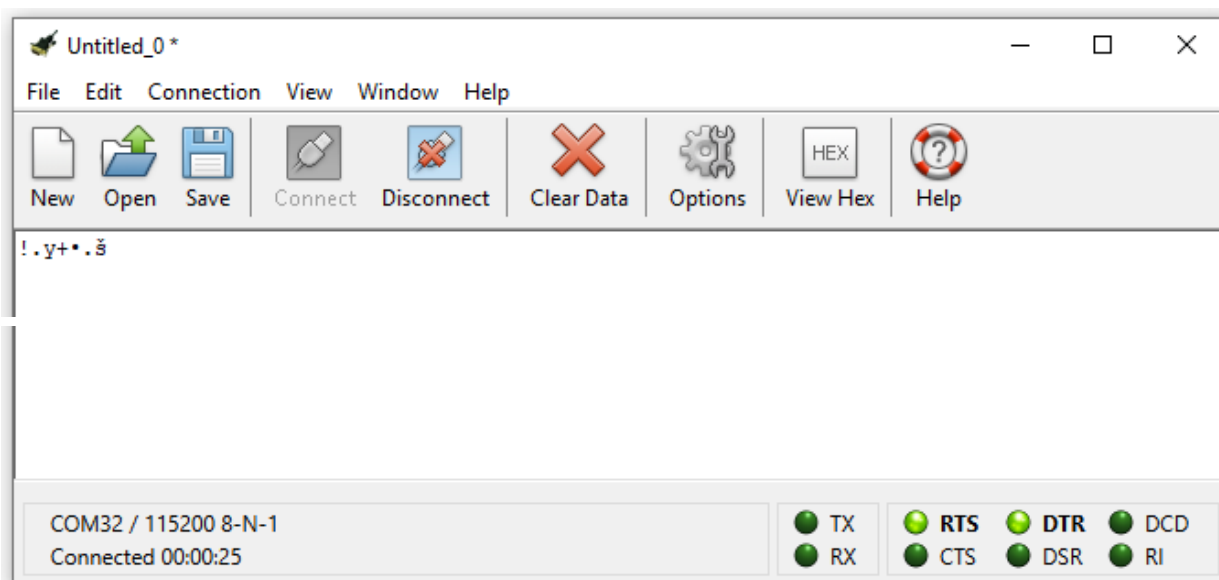

Figure 42. Example response from an eosAC-LT/LO. Responses always start with ‘!’ and are typically 6-9 characters in length.
Typically chamber commands are handled through Eosense software. However, when troubleshooting it is sometimes useful to by-pass the software and communicate directly with the chambers. The use of a terminal program (such as CoolTerm) allows the user to communicate directly with a chamber. This is most conveniently done through command files - which are text files containing the hex characters that make up different chamber commands. For example, the “! AC - Chamber Close.txt” file, when sent to a listening eosAC-LT/LO chamber, instructs the chamber to close (see **Figure 42**).
- If the port connects successfully, click the Connection menu and choose "**Send Textfile...**". Navigate to the folder created in step 1 and select the "**! AC - CloseChamber.txt**" file to send. The listening eosAC-LT/LO chamber should respond - this will appear as a series of ASCII characters in the CoolTerm window (see **Figure 42**), followed by the chamber closing.